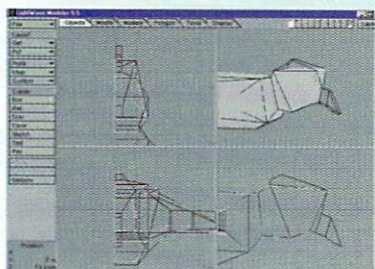

Figure 9
17. Figure 9 shows the final steps for the creation of the beak and head shape. The two selected polys are the ones you'll need to work on to finish the model. When you have finished the head, press the forward slash [/] key to deselect all polys and activate point mode [ctrl - g].